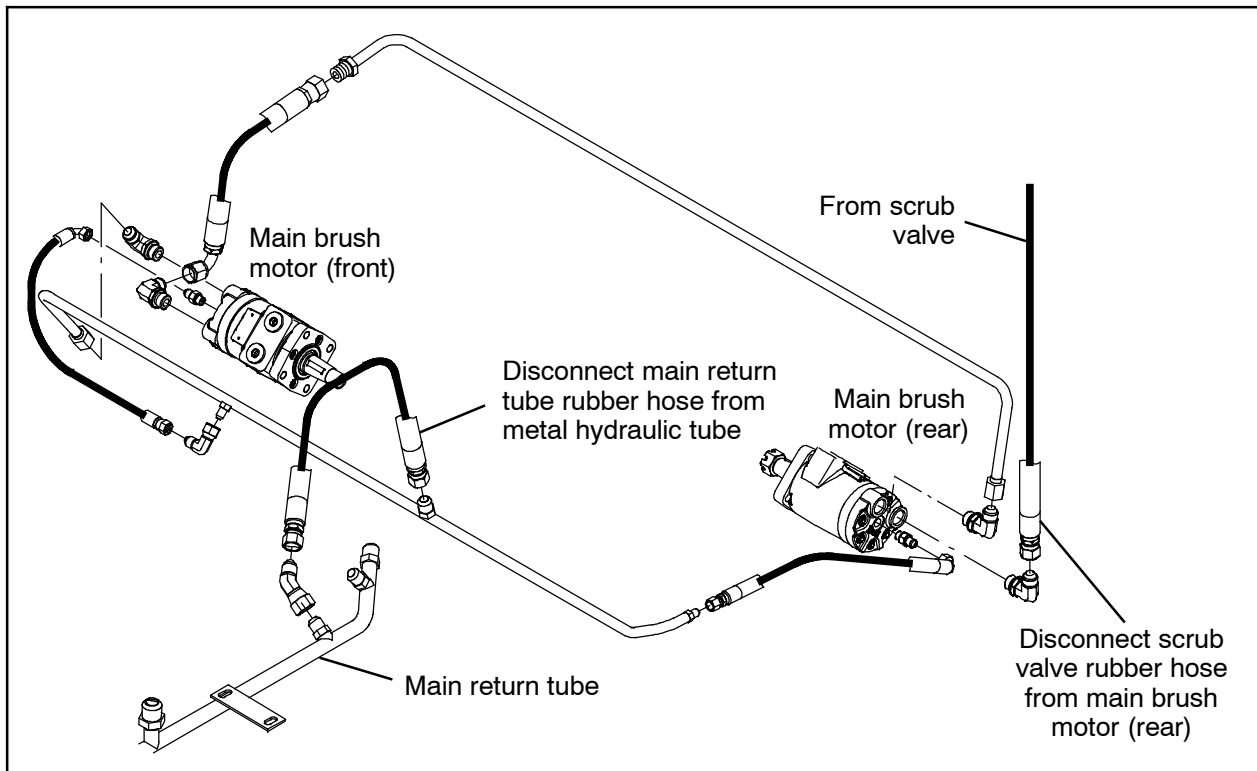

FIG. 1
1. Disconnect the main return tube rubber hydraulic hose and scrub valve rubber hydraulic hose from the metal hydraulic lines on the main scrub head. (Fig. 1)